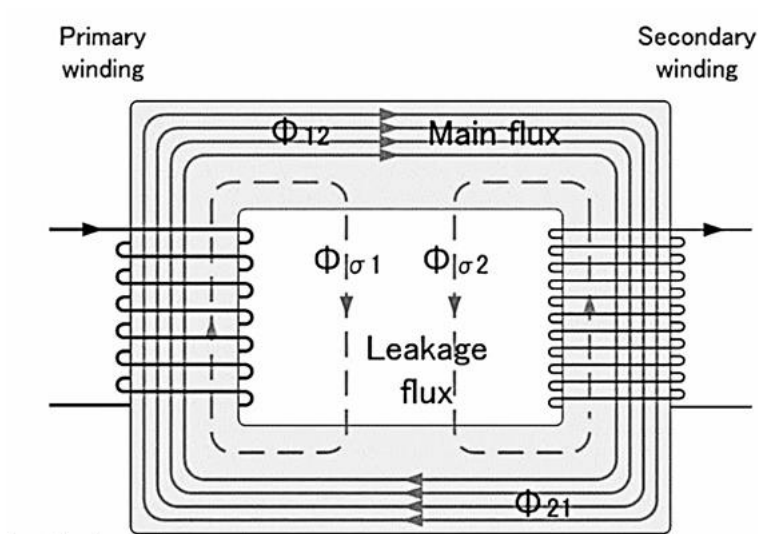

Fig. 1: The basic Transformer
The transformer consists of two coils (or windings) wound around a soft iron coil (see **Fig. 1**). One is referred to as the primary coil, with N_1 turns, and the other as the secondary coil, with N_2 turns. The primary coil is connected to an alternating-current (AC) source with electromotive-force (emf) \mathcal{E}_1 , and the secondary is connected to a resistive load.
(which equals N_2/N_1 for ideal transformers, but in practice, part of the magnetic flux Φ_B generated in the primary coil leaks out of the iron core (leakage flux) see **Fig. 1**, hence, $G \neq N_2/N_1$). For a step-up transformer $G > 1$, and for a step-down $G < 1$.